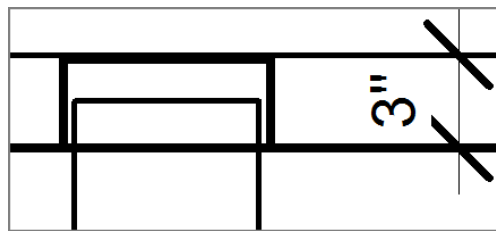

FIGURE 12.58: Offsetting the thick lines
10. Trim the bottoms of the thick vertical lines to the 3" (75mm) horizontal line, as shown in Figure 12.58.